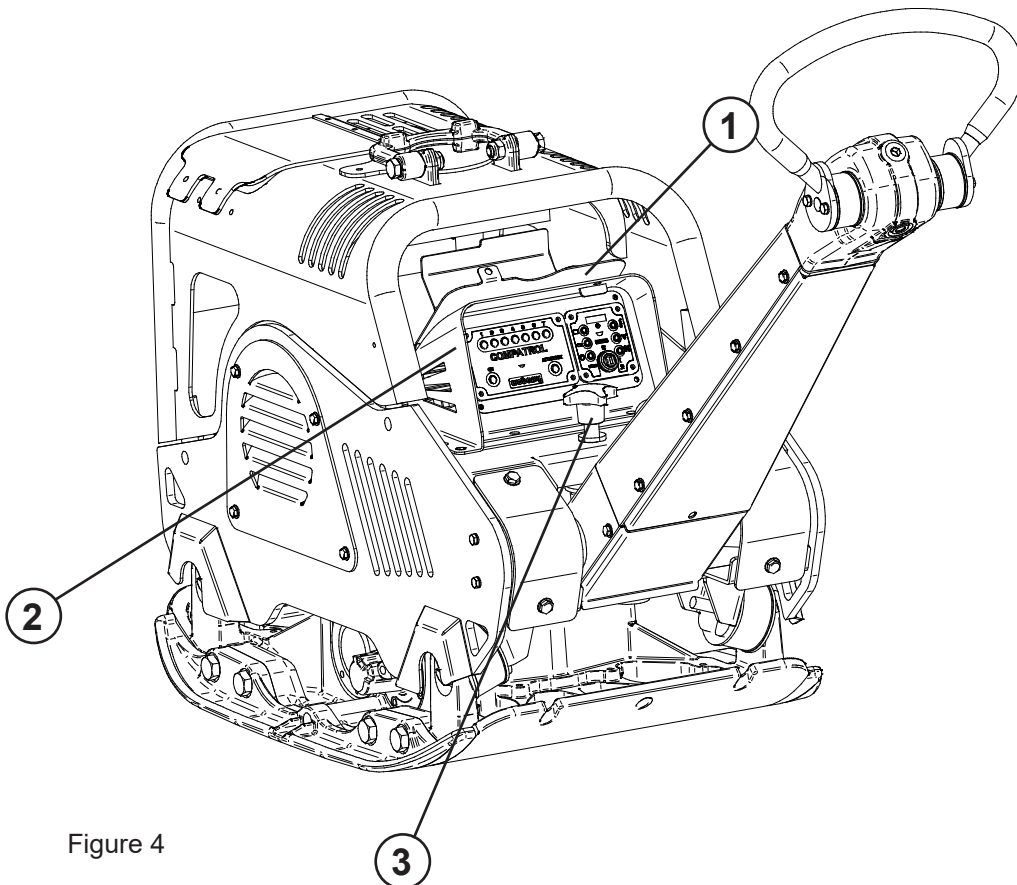

Figure 4
- ▶ Open the vandalism flap (position 1, figure 4)
- ▶ Insert the vandalism flap (1) into the designated holder on the valve box (position 2, figure 4).
- ▶ Adjust the desired work height of the guide bar with the set screw (position 3, figure 4).